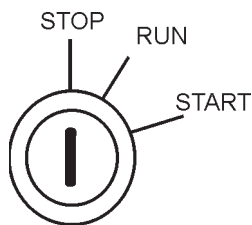

Figure 54. Ignition Switch (Off Position)
4. Place the ignition switch (Figure 54) in the “**STOP**” position, remove the key and store in a safe place.
2. Turn the ignition switch key to the **STOP** position (Figure 54).